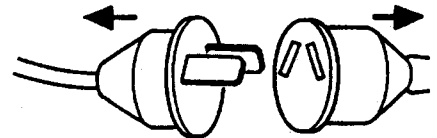

FIG 9
10. When cleaning, disconnect electrical cable (Fig. 9) and do not use water. Scrape dirt away with a piece of